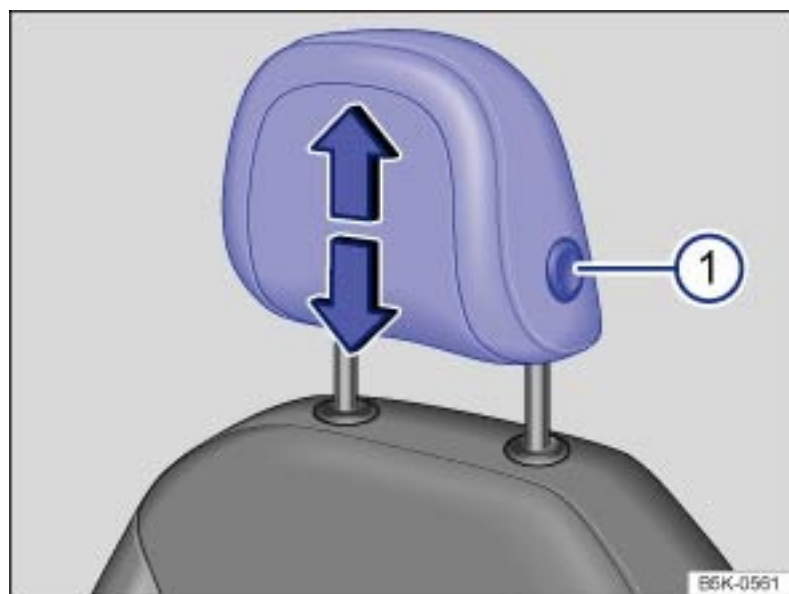
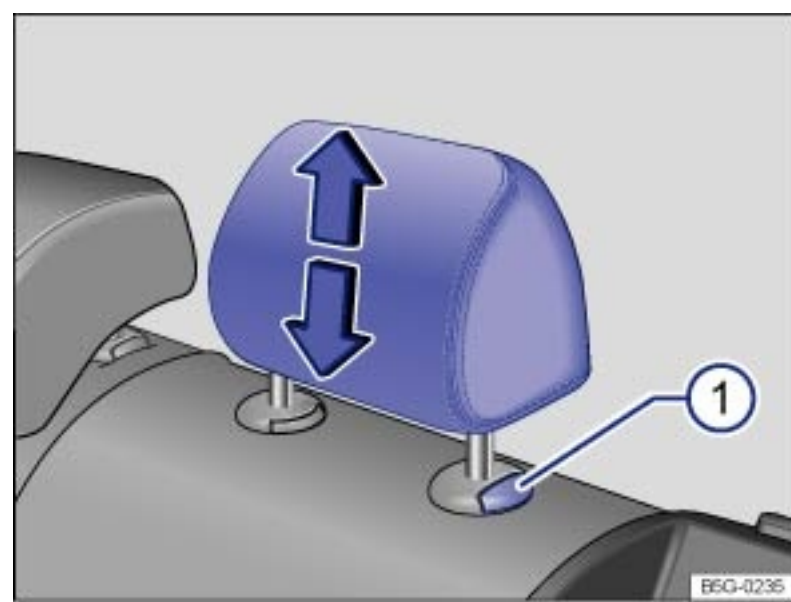

Fig. 42 Adjusting the front head restraints.
Fig. 43 Adjusting the rear head restraints.
- ▶ Pull the head restraint up in the direction of the arrow, or push it down while pressing the button → Fig. 42 ① or → Fig. 43 ① → .